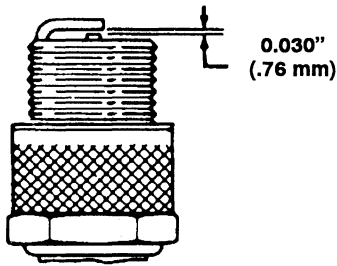

Figure 17
3. Set air gap at 0.030" (0.76 mm) (Fig. 17). Install correctly gapped spark plug and gasket seal. Tighten plug firmly to 14 ft-lb (19 N·m).